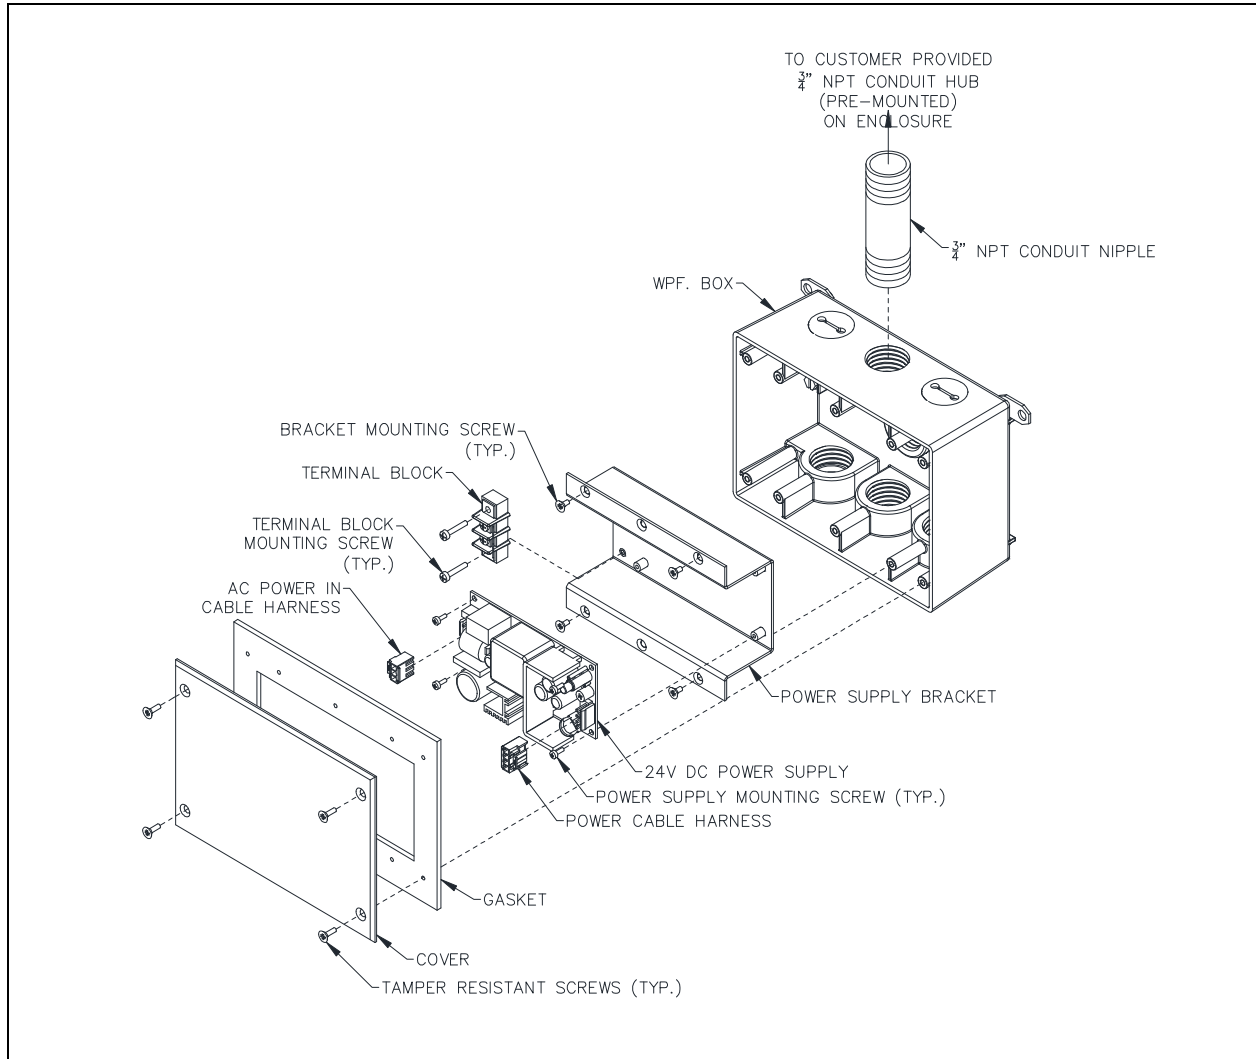

Figure 1. Power Supply Installation
The three-gang box can be surface-mounted using the provided mounting feet. Use the 3/4-inch × 3-inch NPT pipe nipple to attach the box to a pre-installed conduit hub (provided by customer) if mounting the power supply directly to the device being powered (see Figure 1):
4. Install the power supply bracket, power supply and terminal block in the conduit box (see Figure 1).